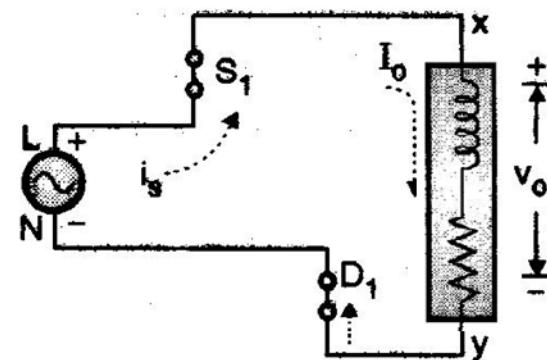

Fig. 2.19 (b) : Load stores energy,
- The current through SCR₁, $I_{SCR1} = I_o$ and $I_{D1} = I_o$ as shown in Fig. 2.19 (g).